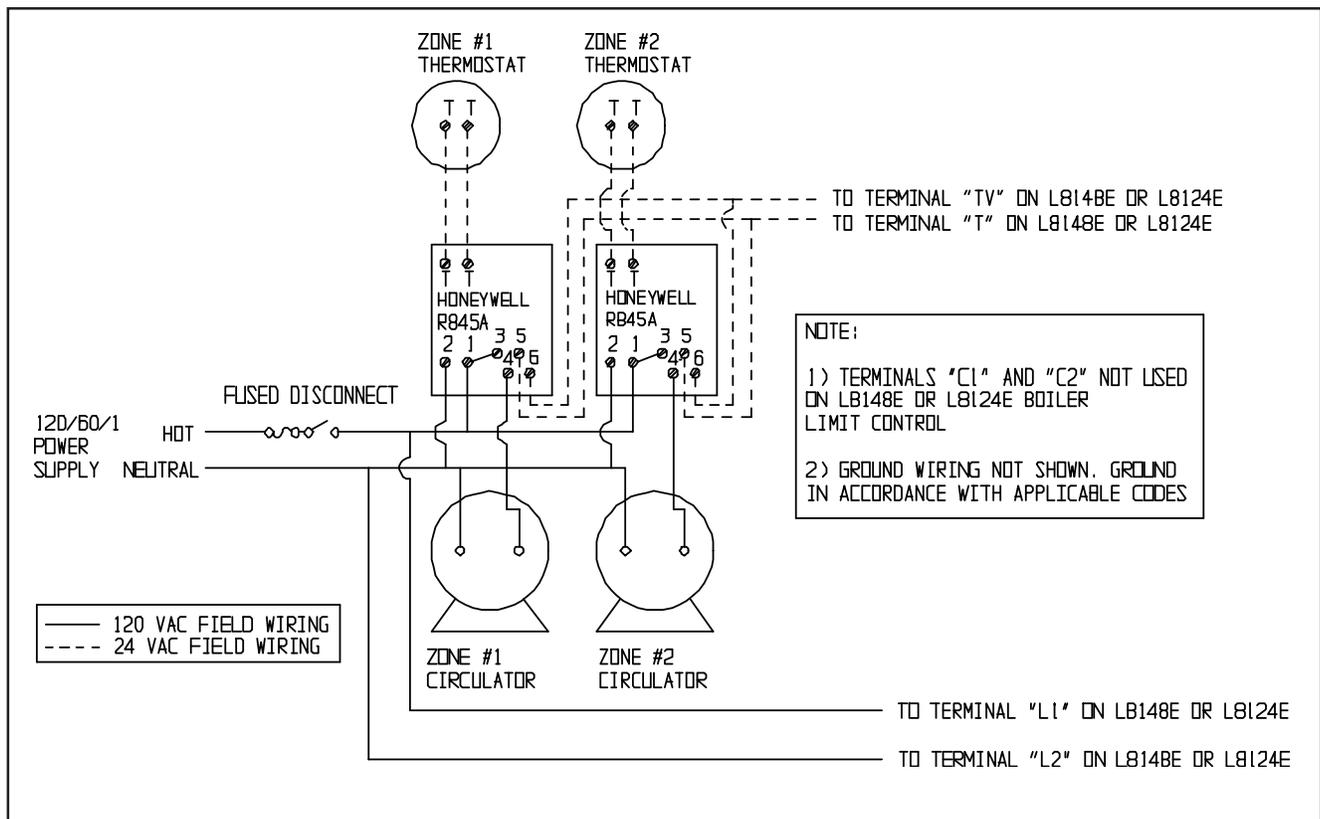

FIGURE 22: CIRCULATOR ZONE WIRING USING HONEYWELL R845As
- 1) **Multiple Circulator Zones** – Figure 22 shows wiring for two or more circulator zones using Honeywell R845As. One R845A is required for each circulator zone. Circulator terminals “C1” and “C2” on the limit control are not used. ADPST Honeywell RA832A may be substituted in place of the R845A using the “X” and “X” terminals in place of the “5” and “6” terminals on a R845A.